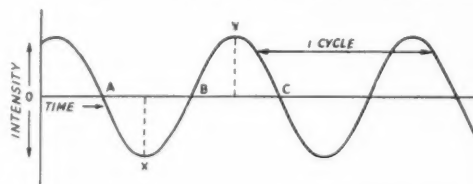
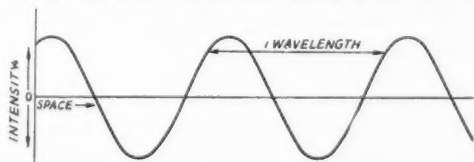

Fig. 1 — Sine-curve representation of intensity variations in a wave field with time, at a fixed observing point.
Fig. 2 — By changing the label on the horizontal axis, the sine curve can be made to represent intensity variations in space at a fixed instant of time.
Fig. 1 — Block diagram of proposed receiver layout at W6OVK. A dual i.f. amplifier, complete with a.m., f.m. and a b.f.o., will permit the desired i.f. amplifier to be connected to any one of the several front-end converters. Directional antennas for the various bands will be permanently connected to these converters.
Fig. 2 — Operation of an amateur station from inside a photography darkroom. The shack is next door to the darkroom as shown in (A) and contains a foot pedal-operated press-to-talk switch, a microphone and a speaker. A remote-local switch in the operating room cuts in the darkroom or ham shack control circuit as shown in (B). R_{Y1} turns on the transmitter and R_{Y2} cuts off the receiver when either S_1 or S_3 are closed.
Everyone who has done a little reading on radio knows that an electromagnetic wave in space consists of traveling fields of electric and magnetic force. The two fields are separate but not independent, and go through identical variations with time when viewed at a fixed point in space. In the case of a "pure" wave, or one involving only a single frequency, these time variations follow a sine curve; hence we draw (as in Fig. 1) the same curve to represent them that we use to show the variation with time of an alternating current. In the case of the alternating current, the ordinate above the zero axis commonly would be labeled
As applied to a wave, Fig. 1 says that the field (either one, electric or magnetic) exerts its force in some unspecified direction whenever the curve is above the axis and that this direction is reversed whenever the curve is below the axis. The curve does not show the *actual* direction; it has no means of doing so. By definition, the direction of an electric field of force is the direction in which a small positive charge would move when placed in the field; similarly, the direction of a magnetic field is the direction in which a small north pole would move in the field.
By changing the label on the horizontal axis from "Time" to "Space," as in Fig. 2, we can get a different interpretation from the same curve. Now we assume that instead of making our observation at a fixed point in space and letting time run on, we take an instantaneous snapshot of the intensity variations in the field as they are distributed along a line parallel to the direction in which the wave is moving. If we could make time stand still while we moved along such a line measuring the field intensity, the value of the field at any point along the axis would be proportional to the height of the curve above or below the axis at that point. Again we should find a periodic reversal in direction. However, the curve merely says that the direction reverses; it does not say what the direction is. The distance between any two points having the same direction and intensity is equal to the wavelength of the wave, as shown on the drawing. But obviously the curve does not give an actual picture of the wave — no more than it did with the different label in Fig. 1.
tion, which is the direction of the line itself. The magnetic lines surround the conductors of the parallel line, and form concentric circles between the conductors of the coaxial line; they are everywhere perpendicular to the electric lines and to the direction of propagation. This is shown in Fig. 4. The intensity of the fields varies along the line at any instant just as in the case of the space wave whose intensity-space variation is shown in Fig. 2, and the intensity varies with time at a given point as shown in Fig. 1.
A simple graphical approach to this requires still another method of depicting the wave. Suppose that the sine curve of Fig. 2 showing the space distribution of the field intensity at a given instant is imagined to exist in three dimensions, resembling corrugated paperboard or a corrugated tin roof. Then Fig. 2 is a view of the edge, and a rough indication of the top view of the curve is given by Fig. 8, where a thin line represents a null, a solid heavy line a positive maximum and a dashed heavy line a negative maximum. Keep in mind that the lines in this method of representation are not lines of force (that is, they do not show the direction of the field) but simply mark the regions in space where maxima and nulls exist. We are looking down on the wave in much the same way that we can look down on ripples in a stream from the vantage point of a bridge. The direction of travel is perpendicular to the lines of maxima and minima, just as the direction of travel of water waves is perpendicular to the "ridges" in the water. The distance between any two adjacent lines in the direction perpendicular to them is a quarter wavelength, between any two alternate lines a half wavelength, and so on.